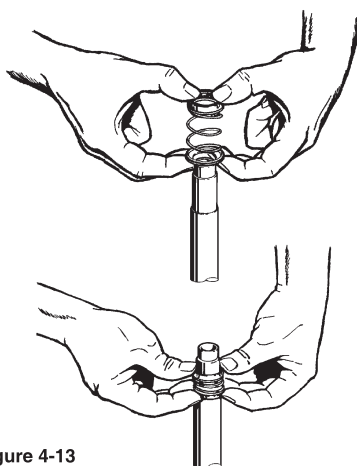

Figure 4-13
- b. Thread two (2) Guide Rods (#18) into the top holes of the motor face. (Use four (4) guide rods on stainless steel models).
- d. Install two (2) "O" Rings on each of the (top) two guide rods. This will help hold the bracket in place during the remainder of the assembly operation.
- d. Holding the element assembly between the thumb and index finger of both hands, slide the assembly over the sleeve until the spring holder rests against the shoulder of the sleeve. Refer to Figure 4-13.
- d. Install one (1) "O" Ring (#8) on each of the four guide rods. This will help hold the bracket in place during the remainder of the assembly operation.
- b. Holding the element assembly between the thumb and index finger of both hands, slide the assembly over the shaft until the spring holder rests against the shoulder. Refer to Figure 4-13.